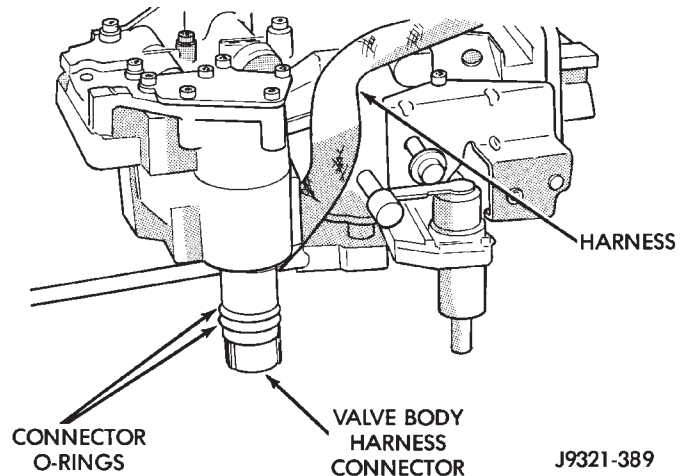

Fig. 15 Valve Body Harness Connector O-Ring Seal Locations
- (1) Verify that park/neutral position switch has NOT been installed in case. Valve body cannot be installed if switch is in place.
- (2) Check condition of O-ring seals on valve body harness connector (Fig. 15). Replace seals on connector body if cut or worn.